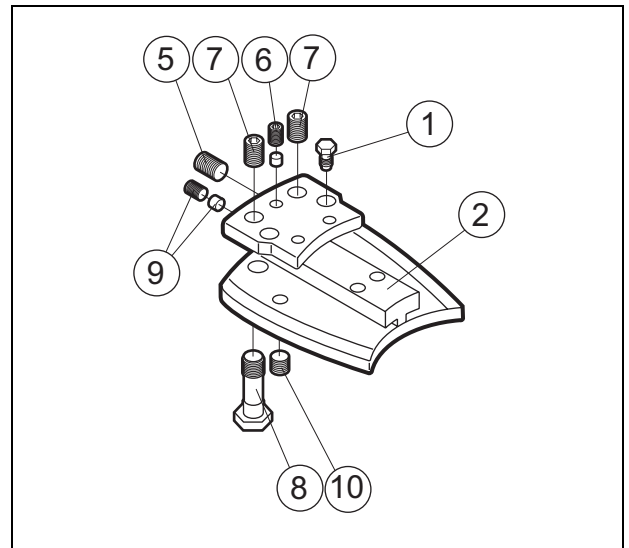

Fig. 50 Bar holder
If a saw bar is destroyed, it is possible that the guide screws (8) are damaged. *See Fig. 50.* For example, may only the threaded end remain in the bar holder (2).